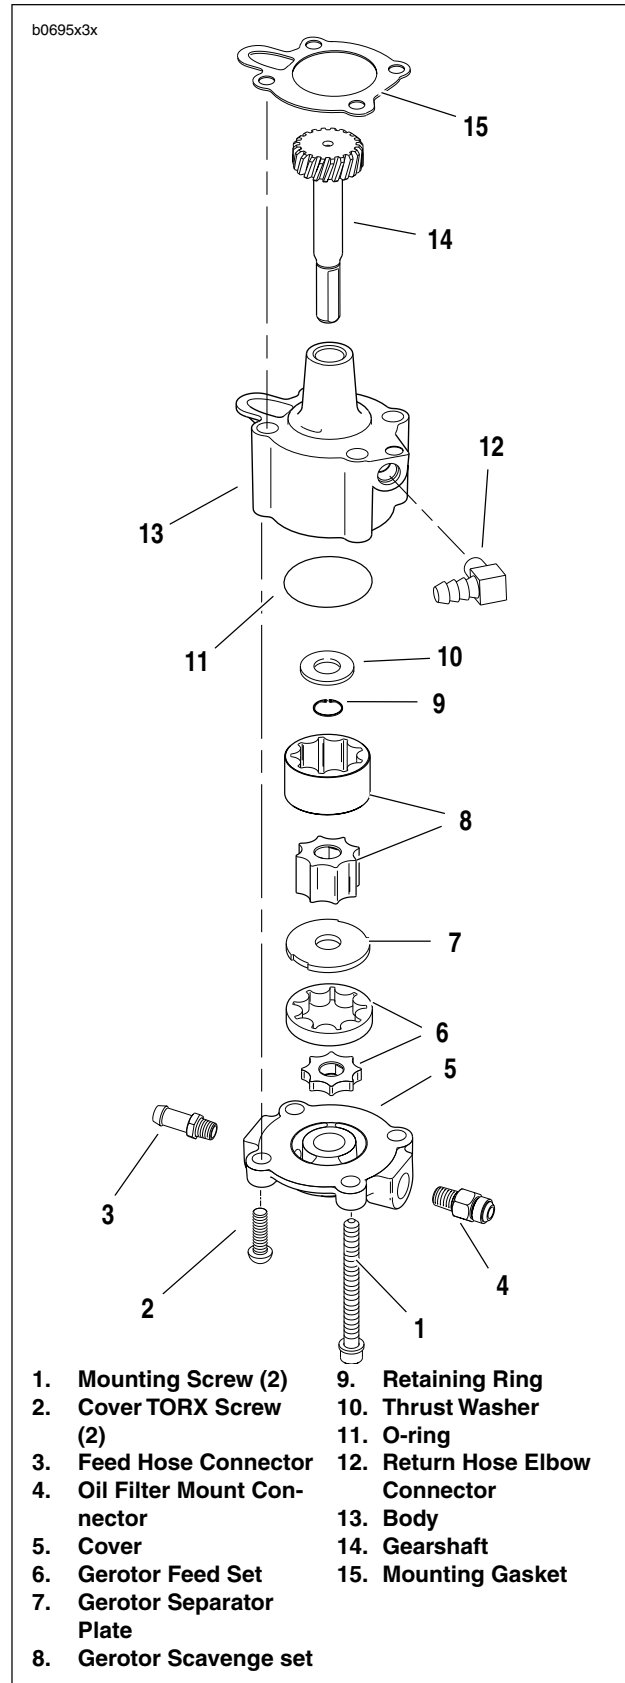
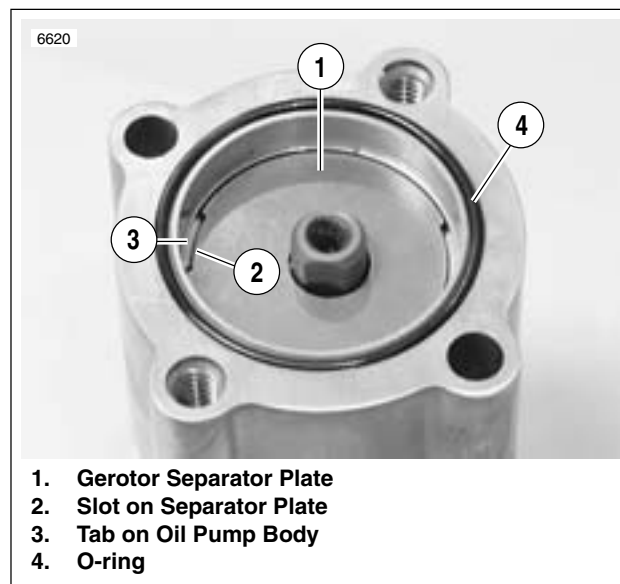

Figure 3-54. Oil Pump
Figure 3-57. Separator Plate Slots
See Figure 3-54. The oil pump consists of two gerotor gear sets, feed (6) and scavenge (return) (8), housed in one pump body (11). The feed set distributes oil to the engine, the scavenge set returns oil to the tank.
See Figure 3-54. Gravity-fed oil from the oil tank enters the pump through the feed hose connector (3). It is forced by the gerotor feed set (6) through a hose to the oil filter. Return oil from the flywheel compartment is drawn back into the pump and is forced by the gerotor scavenge set (8) back to the oil tank.
3. Carefully remove mounting screws and washers (4). Pump will drop with screws removed. Discard mounting gasket.
4. Remove clamp (2) and detach return hose connection (1).
5. See Figure 3-54. Remove cover TORX screws (2). Lift cover (4) off body (11). Remove and discard O-ring (13).
6. Slide both pieces of gerotor feed set (6), separator plate (7) and both pieces of gerotor scavenge set (8) off gear shaft (10).
7. Remove and discard retaining ring (15). Remove thrust washer (14) and gear shaft (10).
3. See Figure 3-54. Check gear shaft (10) teeth for damage or wear. Replace if necessary.
1. See Figure 3-54. Install gear shaft (10) through body (11). Position thrust washer (15) over end of shaft. Install **new** retaining ring (16) into groove in shaft.
2. Insert inner gerotor of the gerotor scavenge set (8) over gear shaft.
3. Place outer gerotor over inner gerotor to complete scavenge set (8).
4. See Figure 3-57. Install gerotor separator plate (1) by lining up slots (2) on perimeter with tabs (3) inside oil pump body.
5. Install a **new** O-ring (4) into groove in pump body.
6. See Figure 3-54. Place gerotor feed set (6) over gear shaft (10).
7. Place cover onto pump body. Install cover TORX screws (2). Tighten to 70-80 **in-lbs** (8-9 Nm).
8. Place **new** mounting gasket (9) in position.